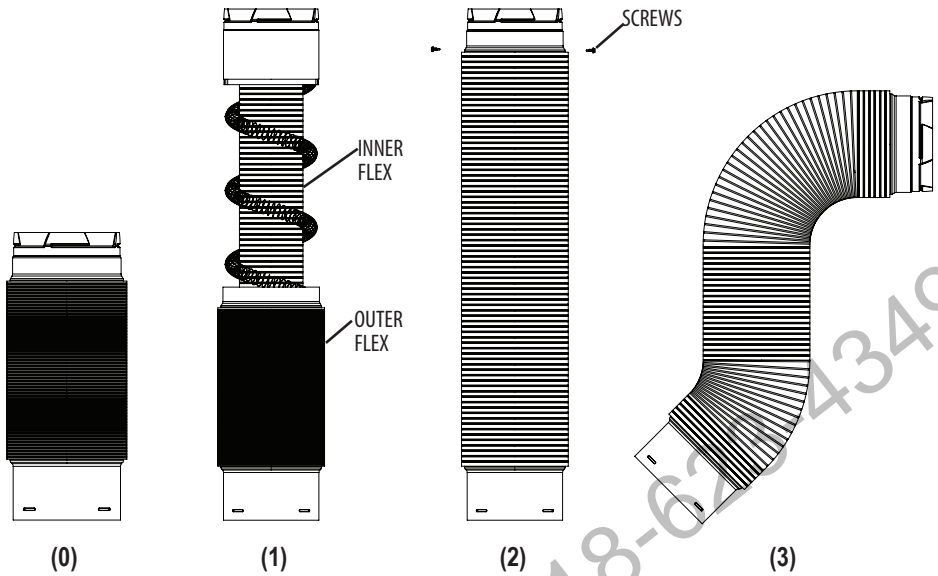
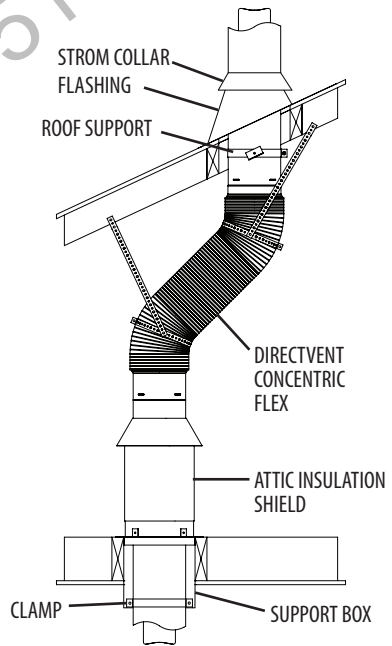

Figure 1
Figure 3
Step 4: Assemble the DirectVent Concentric Flex into the desired shape for the install by following the steps show in in **Figure 1** and as instructed below:
- (1) Stretch the inner flex liner to the required length.
- (2) Stretch the outer flex liner to the required length and secure the male collar to the outer flex collar with the three sheet-metal screws provided.
- (3) Bend the Concentric Flex into the general shape needed for the install.
Duravent’s DirectVent Concentric Flex was **NOT** designed to support the weight of additional vent sections. All vent sections installed above the Concentric Flex must be adequately supported by using appropriate components – Example: ceiling support, roof support, wall-straps, elbow-straps, etc. (**Fig 3**)
Step 5: *Install a rigid section of DirectVent pipe through the Ceiling Support Box and attach the provided clamp to the section of pipe on the inside of the Ceiling Support Box to support the rest of the install (**Fig. 3**). Stretch and bend the Concentric Flex using the same steps as illustrated in **Figure 1** to suit the install. Twist-lock the Concentric Flex onto the Appliance Adapter and to the rigid pipe hanging in the Support Box. Use wall-straps or*
(Fig 3).